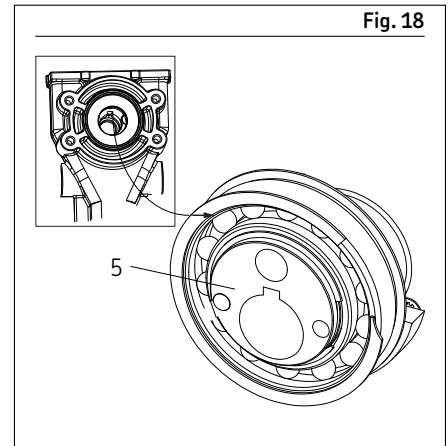

Fig. 18
- 44 While aligning key (39) on shaft (40) with eccentric key way (5), slide shaft (40) into eccentric (5) (→ Fig. 18, page 14).
- 45 Install retaining ring (48) on shaft. (40).
- 46 Install shaft cover (46) on pump (37).
- 47 Insert and thread screws (44) with lock washers (45) into shaft cover (46) and pump housing (37).
- 48 Install shaft adapter (75) inside pump housing (37).